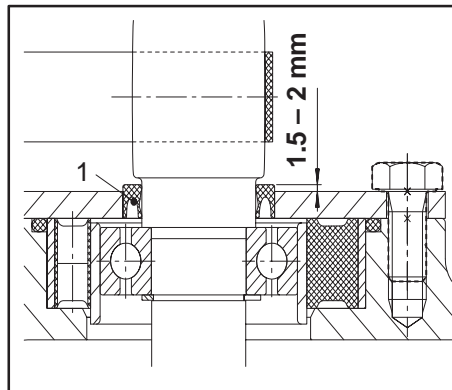

Fig. 70
- The protruding lip seal must point to the centre of the spindle (see Fig. 70).